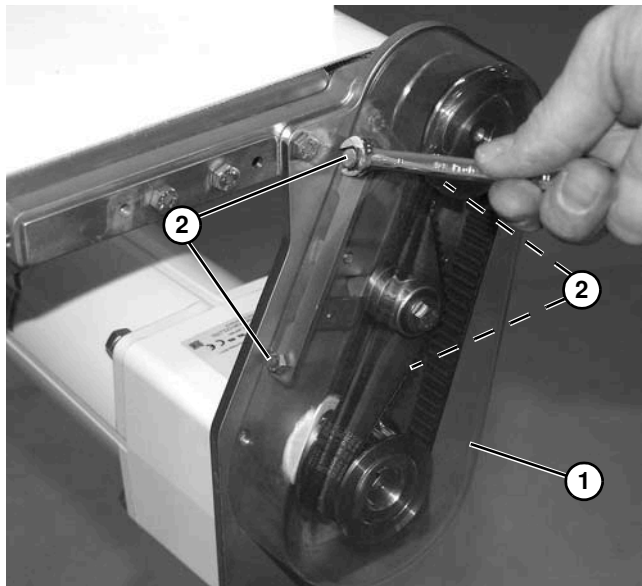

Figure 54
(Figure 54, item 2).*
8. Install cover (Figure 54, item 1) and tighten four screws (Figure 54, item 2).